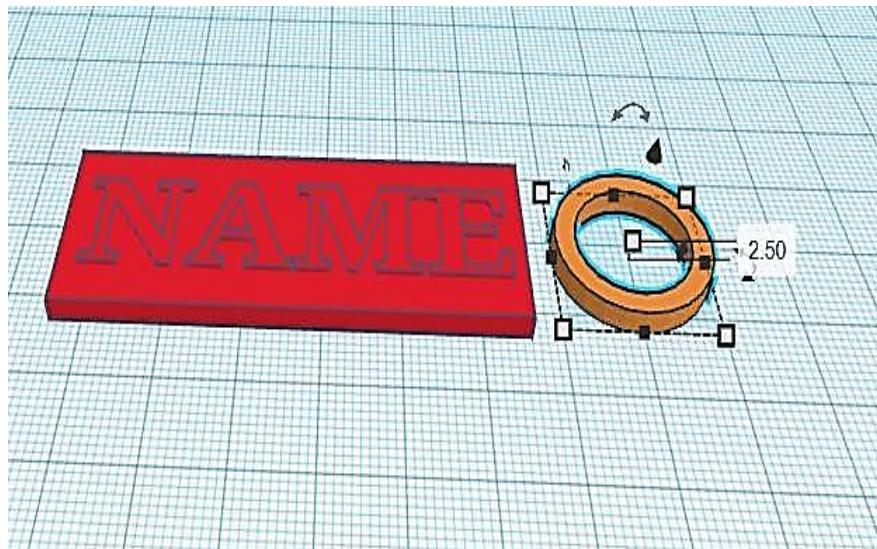

Fig. 4.19: Click and Drag on the Box
8. Click and drag the middle handle to reduce the thickness of the tube to around 2.50 mm and radius of approx. 15 mm (Fig. 4.19).